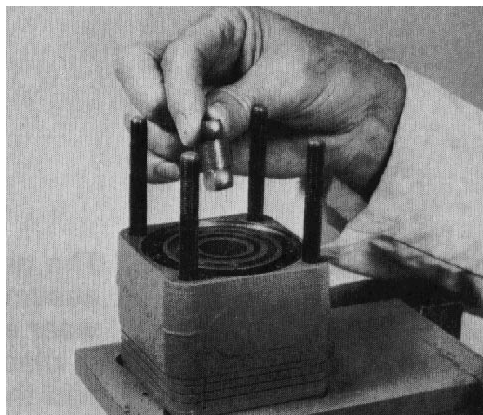

Figure 41
22. Remove the drive link from the unit (Fig. 41).